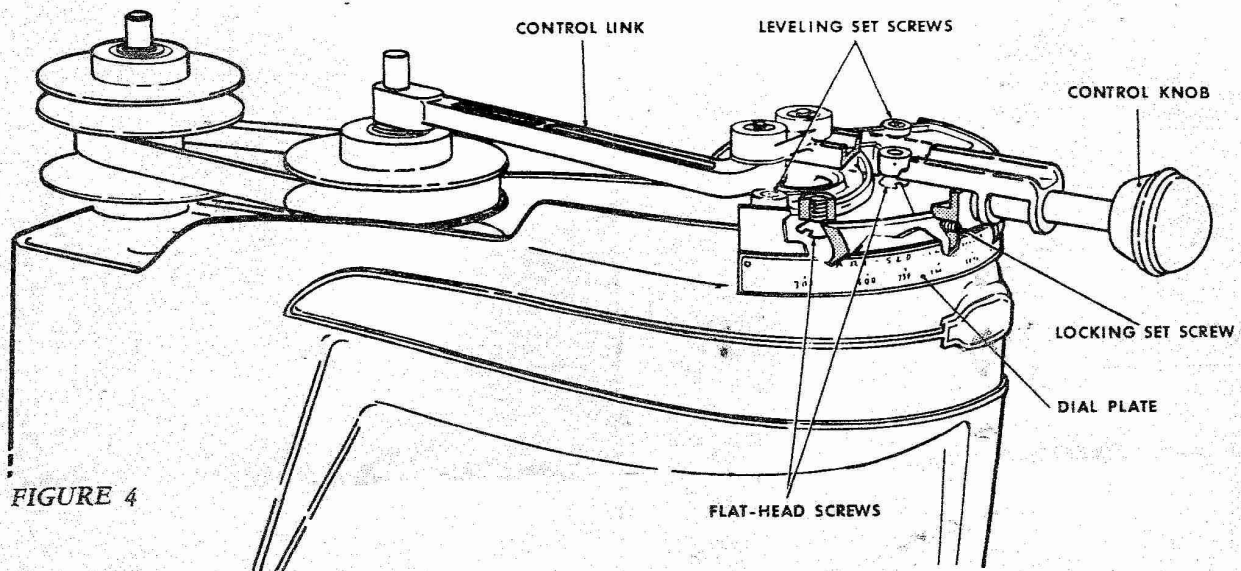

FIGURE 4
Your unit is shipped in one carton containing the following separate parts: 1) Pulley Link (No. SR-130); 2) Pulley Assembly (SEE FIG. 1); 3) Control Assembly (SEE FIG. 4); 4) V-Belt, No. SR-210; and 5) an envelope containing an Allen wrench—to fit all set screws in the unit—together with two spare lock washers and one spare spacer ring. Check to see that you have all these parts, before discarding packing materials.
8. Take the Control Assembly (FIG. 4) and loosen the Control Knob (turn it counterclockwise), then move it to the extreme left end of the Dial Plate. Lower the assembly in place on top of the front part of the drill press head—simultaneously engaging the free end of the Control Link over the front pulley shaft in the Pulley Assembly. The Dial Plate fits down over the front edge of the drill press head; and the two Flat-Head Screws engage under the rear side of this same edge to hold the Control Assembly down in place. Approximately center the Dial Plate on the drill press head, and tighten the Locking Set Screw.
12. With the drill press still running, loosen the Control Knob (FIG. 4) and move it all the way to the left. The pointer on the knob should be at "300" on the Dial Plate.
Your Vari-Slo Speed Control is now ready for use. With it, you can obtain spindle speeds varying from "300" (rpm) up to "3750" (rpm)—as indicated by the numbers on the Dial Plate (FIG. 4). However: NEVER ATTEMPT TO CHANGE THE SPEED SETTING WHEN THE DRILL PRESS IS NOT RUNNING—ALWAYS HAVE THE DRILL PRESS RUNNING. THIS IS VERY IMPORTANT. When the pulleys of the Pulley Assembly